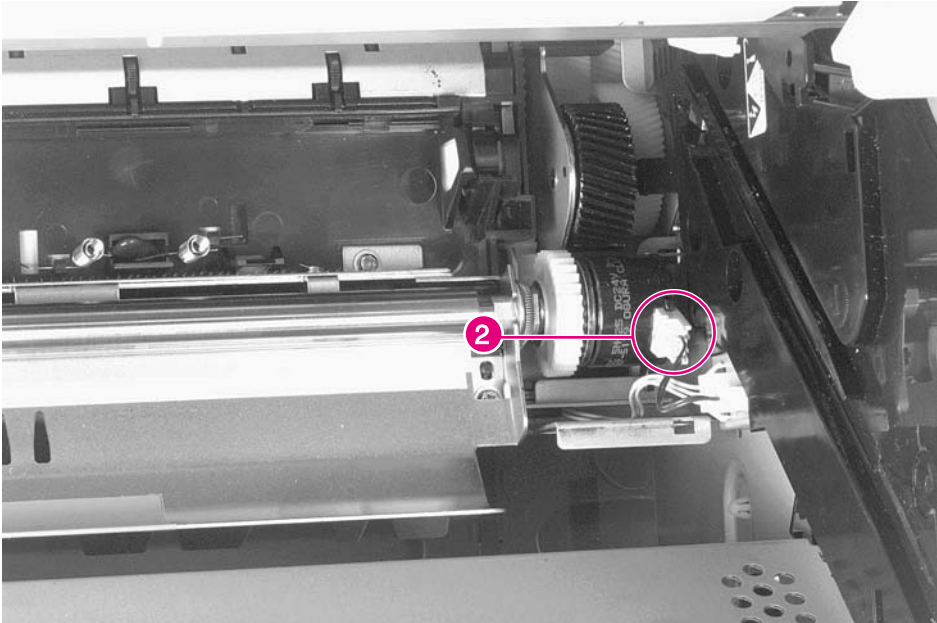

Figure 6-54 Registration Assembly (2 of 3)
- 5 Unplug the clutch cable from the clutch on the right end of the Registration Assembly (figure 6-54, callout 2).
- Registration Assembly (see figure 6-54 on page 326)